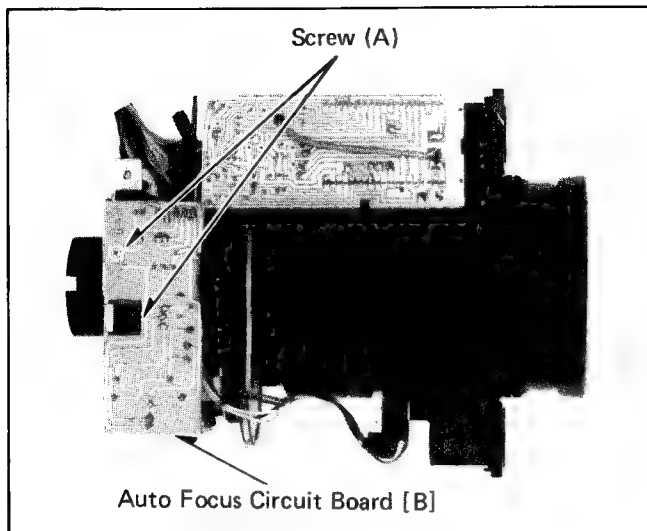

Fig. 18.
- 7-3. Unscrew 2 screws (A) and remove the auto focus [B] circuit board (see Fig. 18).